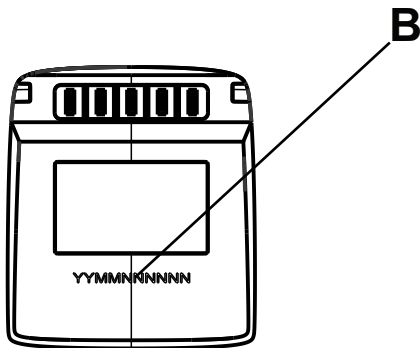
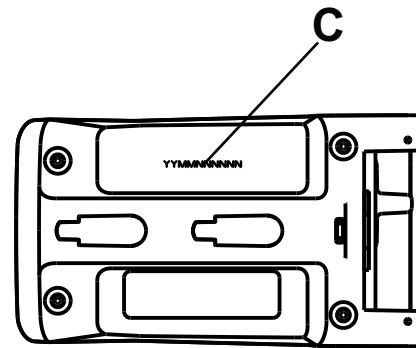

Figure 4 – Alvarium battery serial number location
Figure 5 – Alvarium charger serial number location
See below for the battery (B) and charger (C) serial number locations (Figure 4 and Figure 5).